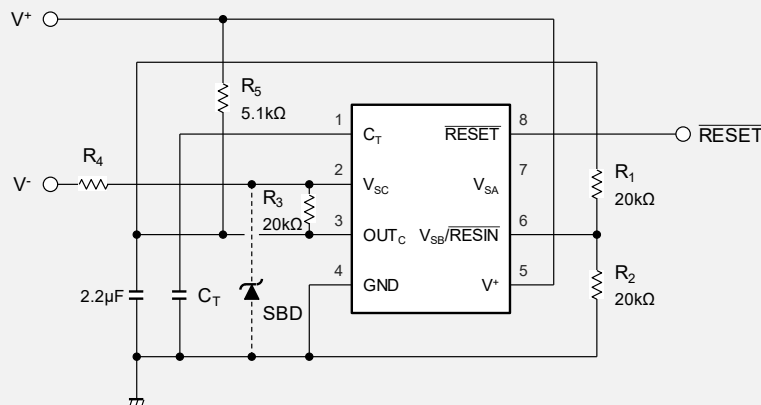

Fig. 10 Positive and negative dual power supply monitoring (V+ = 5V, V- = negative voltage)
- V- detection voltage is calculated as following formula. In case of resistor value in Fig.10, the detection voltage (falling) is about -4.3V and the detection voltage (rising) is about -4.4V.